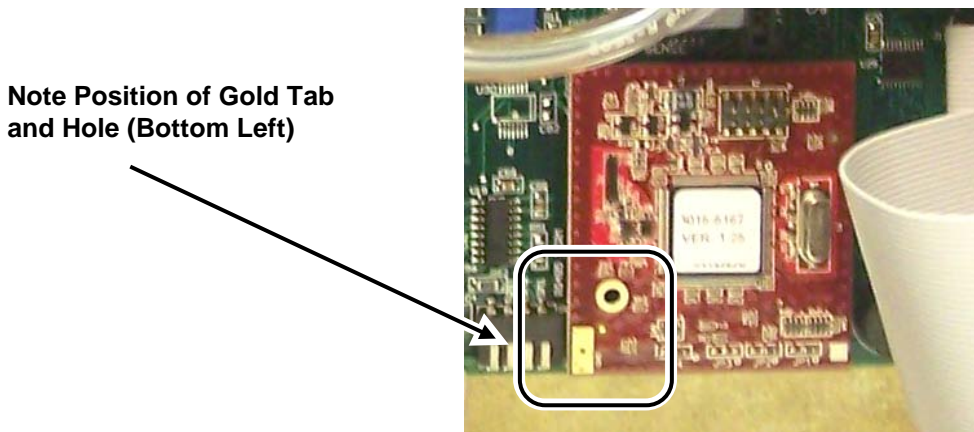

Figure 2. Orientation of Microprocessor Module
- f. Note the orientation of the module, specifically the gold tab and hole oriented on the bottom left of the board. Refer to Figure 2.
- d. Orient the new microprocessor so the gold tab and hole are at the bottom left corner (refer to Figure 2).
- c. Orient the new microprocessor so the gold tab and hole are at the bottom left corner (refer to Figure 2).